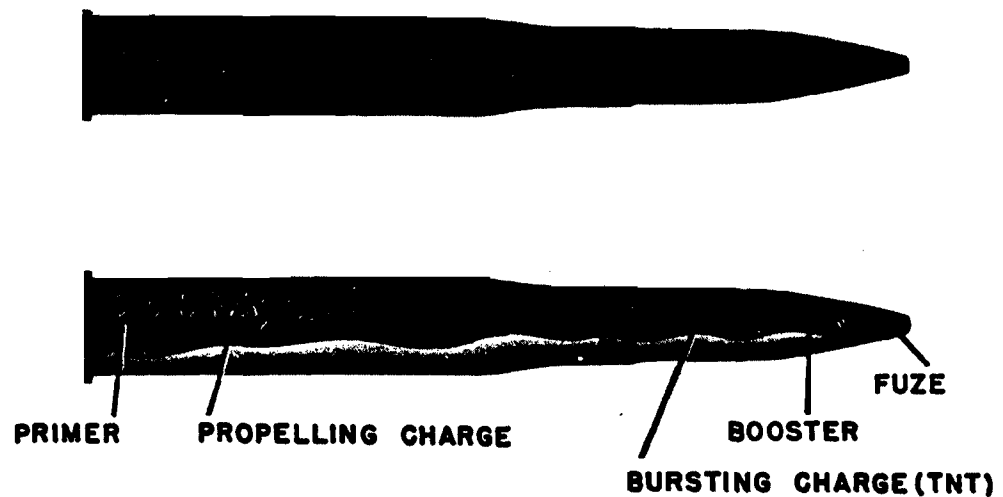

FIGURE 1.—Shell, fixed, HE, M71 with Fuze, PD, M48.
4. AMMUNITION.—a. The ammunition now provided is high explosive shell M71 with point-detonating fuze M48 and booster M20. (See fig. 1.) The ammunition comes sealed in a fiber container and is complete with booster and fuze. This fuze contains two actions, superquick and delay. Although both actions are initiated on